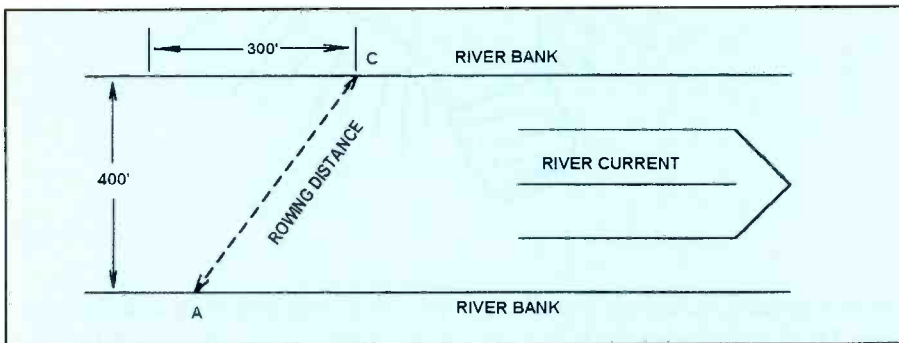

Figure 3. What total distance will the boat have traveled when it reaches the other bank?
7. A man is rowing a boat across a river that is 400 feet wide. He starts in a direction straight across at point A and the river carries him down stream 300 feet to get all of the way across. How many feet does he actually travel to get all the way across the river? See Figure 3.